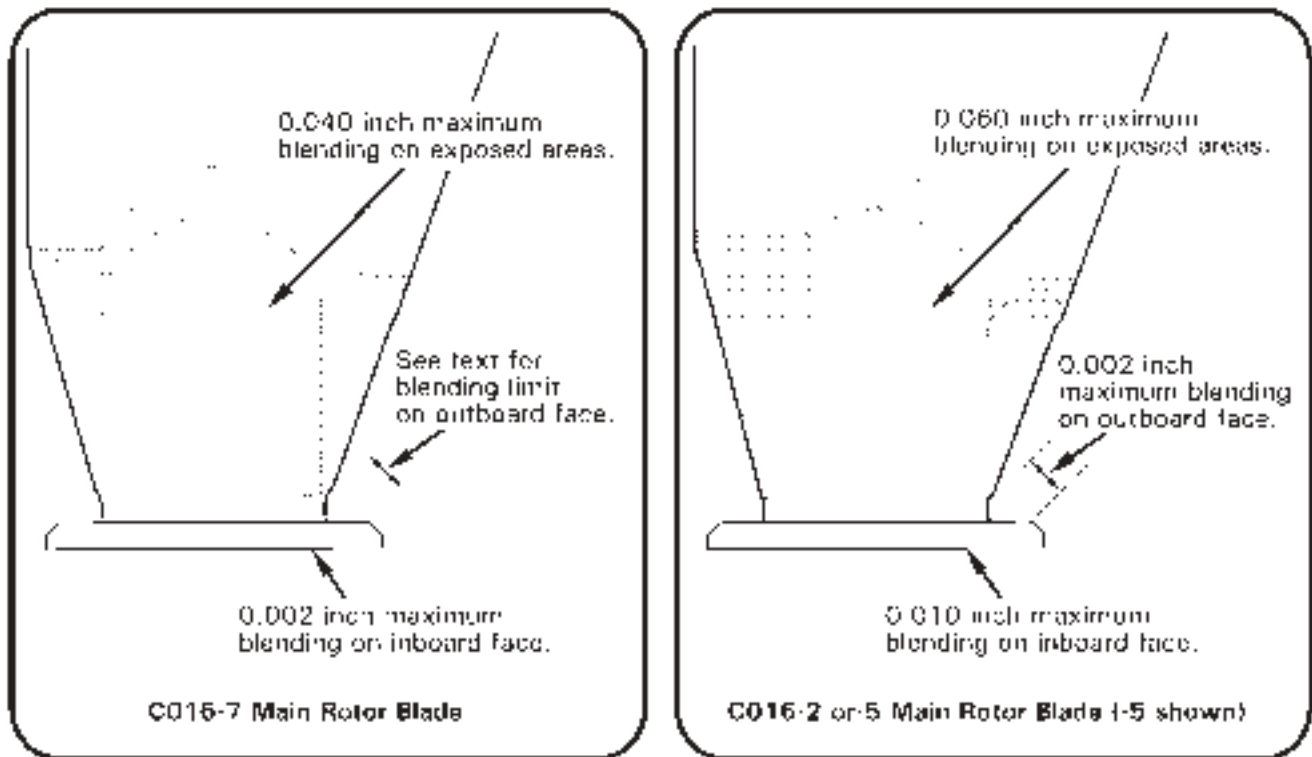

FIGURE 9-13 ROOT FITTING BLEND LIMITS
1. Refer to Figure 9-13. Damage may not exceed the following limits: